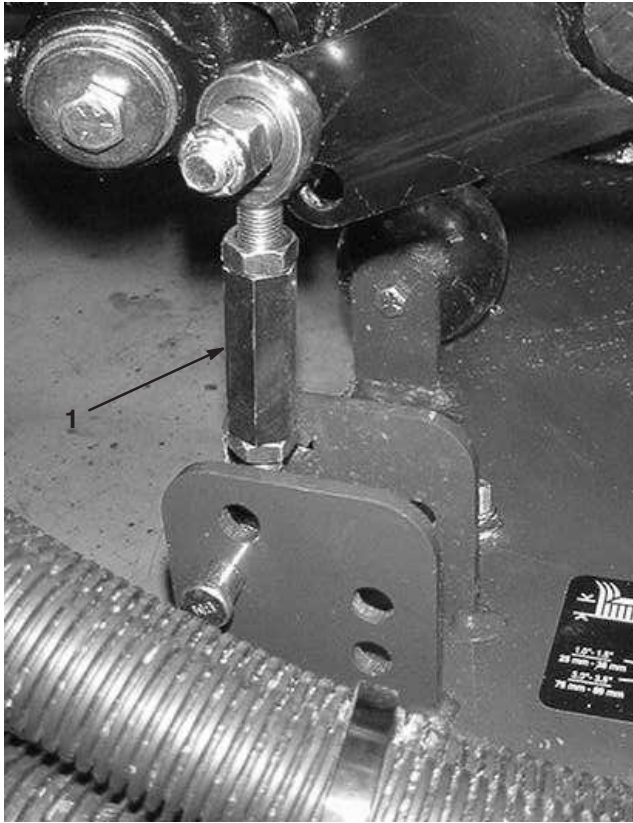
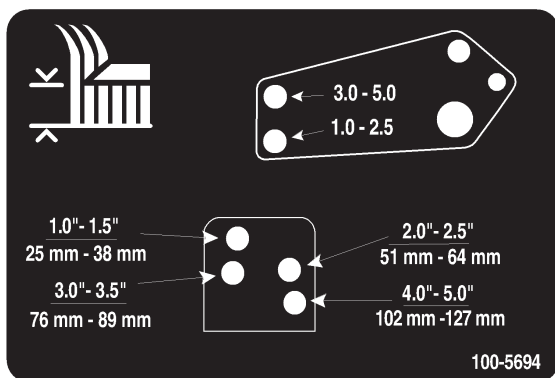

Figure 18
Figure 19
8. Remove the hairpin cotters and clevis pins securing the damper links to the cutting unit brackets (Fig. 18). Align the damper link holes with the selected height-of-cut bracket holes in the cutting unit frame (Fig. 19), insert the clevis pins, and install the hairpin cotters.